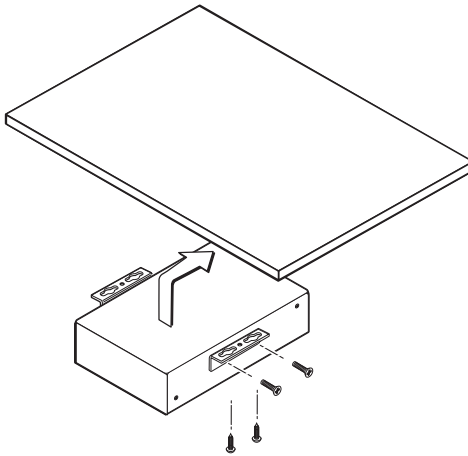

Figure 2-3 — Attaching the under desk brackets
1. Attach the mounting brackets to the SCS 300 using the four machine screws supplied with the mounting kit as shown in figure 2-3.
4. Using the four supplied wood screws, attach the brackets under the mounting surface (see figure 2-3).